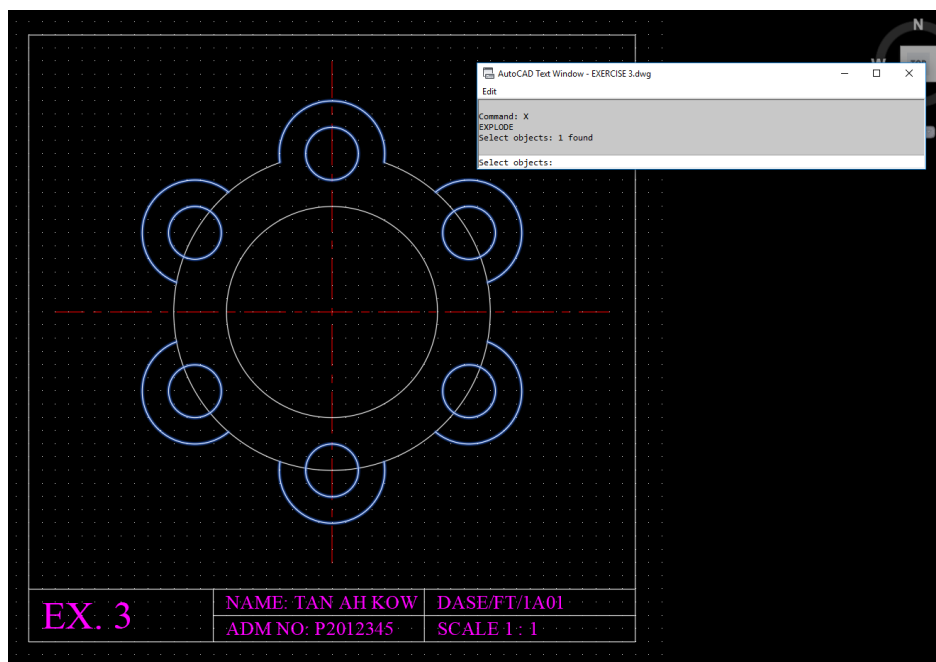

Fig 28
- xxv. Before trimming off unwanted portion, use explode to breakup the arrayed bolt holes as shown in fig 28. Type = **x** (Keyboard shortcut for explode) and select objects= **click on one of the bolt holes** and the rest of the bolt holes are highlighted in blue. Then **enter** to complete the command explode.
- xxvi. After the bolt holes are exploded and form individual component, then use Modify command trim or remove the unwanted portion created by the polar array as shown in Fig 28.